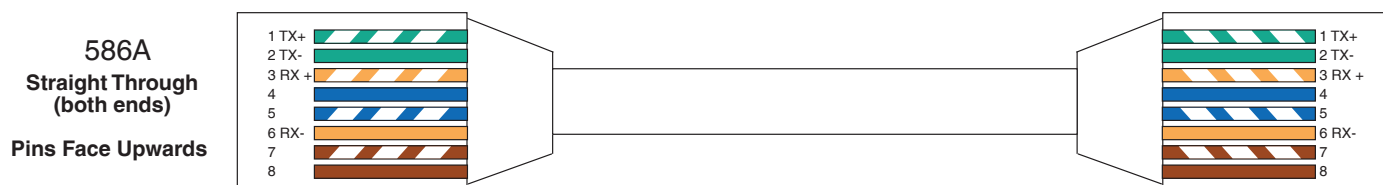

Fig 4.1
Components are connected using "pin to pin" configuration RJ45 data cabling as shown in fig 4.1. When installing ensure all connections are verified with a LAN cable tester before switching any system component on.
- Check Cat5e connection to A 6505/10/15 (refer fig 4.1)